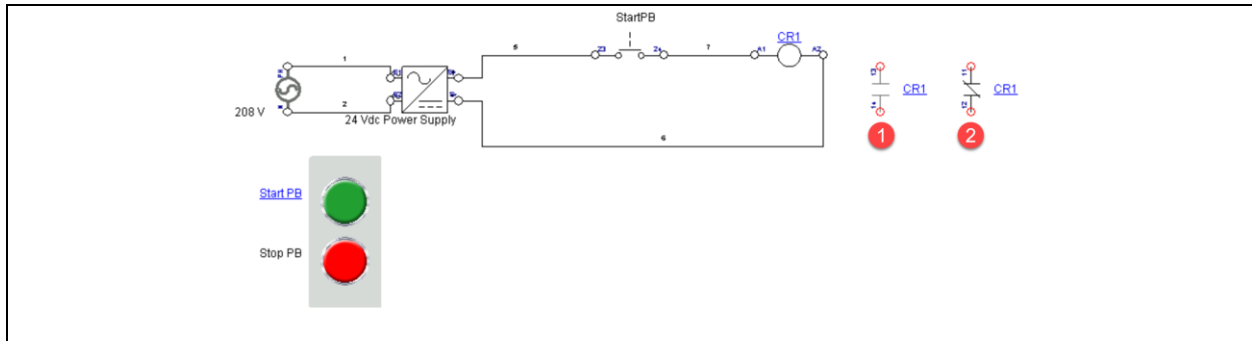

Figure 17. Relay circuit.
1. If the StartPB was not actuated in Figure 17, what should the resistance be across the CR1 contact marked with a “1”?
2. If the StartPB was actuated in Figure 17, what should the resistance be across the CR1 contact marked with a “2”?
3. What would be the voltage rating on the coil of the circuit in Figure 17?
4. What would the resistance of the relay coil typically be in Figure 17 if it was removed from the circuit and measured with the Multimeter?